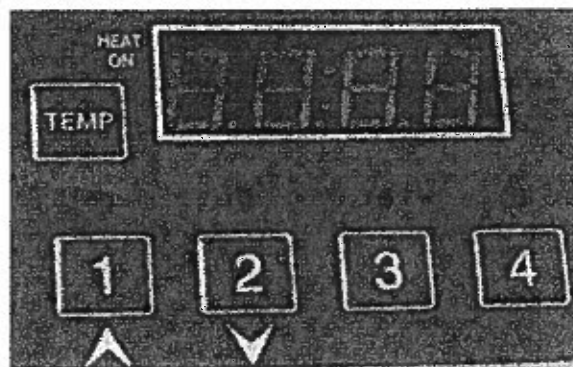
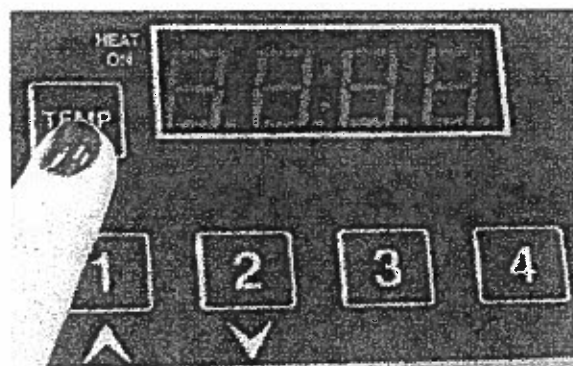

Figure 1
Figure 2
- A. For approximately 1 second, press and hold the TEMP button on the left display while at the same time pressing the product button to program (see Figure 1). The display window will show "----". Enter the password 4,3,2,1 (password numbers will not appear on the display). The display window will then show the current preset cook time and the selected product LED will flash.
- B. Press the UP(1) and DOWN(2) arrow buttons to adjust the cook time.
- C. Press the TEMP button to save the new cook time value (see Figure 2). Afterwards, the current set point temperature will be displayed.
- D. Press the UP(1) or DOWN(2) arrow button to adjust the temperature.